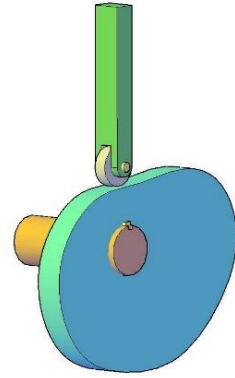
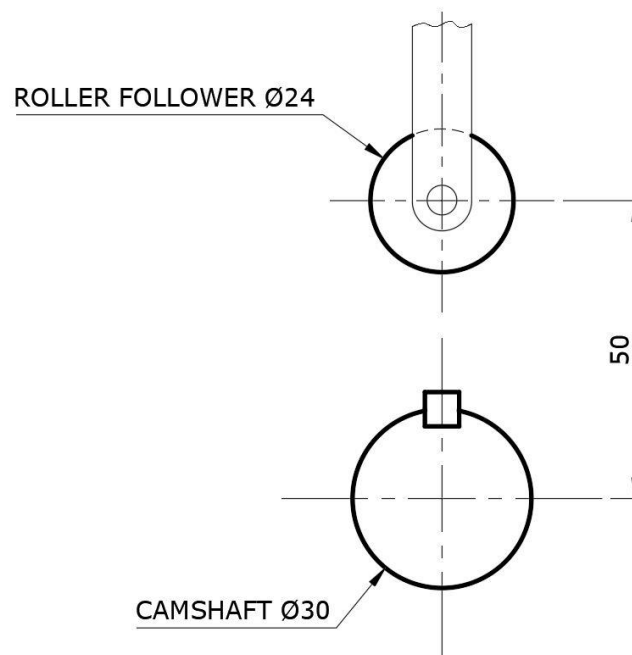

Figure 4a
Figure 4b
The illustration of a plate cam, designed to drive an inline roller follower, is shown in Figure 4a. Details of the cam shaft and the roller follower are given in Figure 4b.
- Copy the starting lines given in Figure 4b. (1)
- Construct the follower displacement diagram. (5)
- Draw the rotation arrow. (1)
- Construct the cam profile. (6)